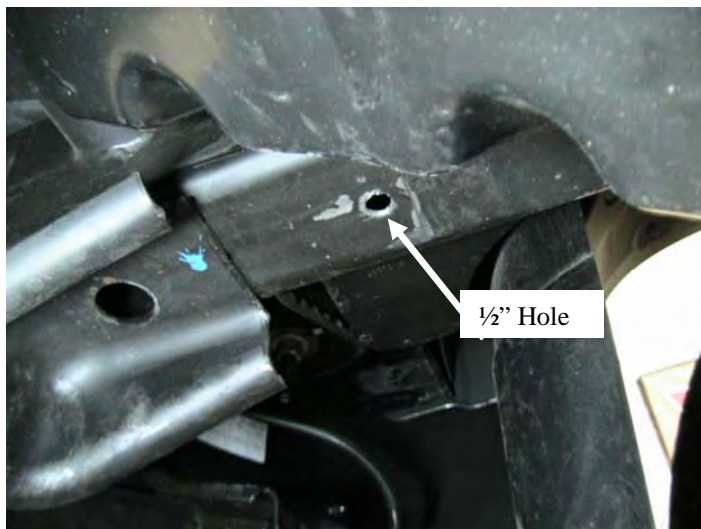

Figure 2 Drilled Hole
4. Drill a 1/2" hole through the bottom of each frame. Wear safety goggles and use caution when drilling the holes. See figure 2.
8. Install a 1/2" x 2" bolt in the middle hole of the lower bracket. Use the round black spacer, an oversized flat washer, and lock washer. **NOTE: The spacer must be placed in the large hole in the bottom of the frame so it rests against the frame bracket inside the frame. The oversized washer will hold it in place once the bolt and lock washer are installed.** See figure 2.